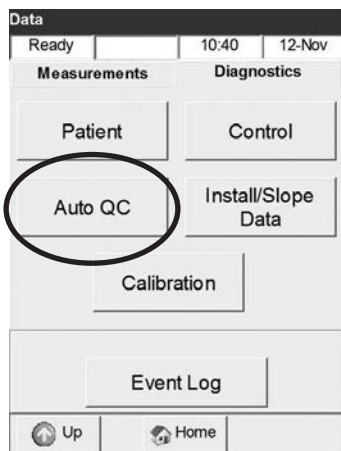

Fig. 7-41 Select Auto QC
- To print an Auto QC report, select **<Diagnostics -> Auto QC>** in the **<Data>** screen (Fig. 7-41).
- Press **<Install/Slope Data>** (Fig. 7-41) to view data from pack/installations and slope check.